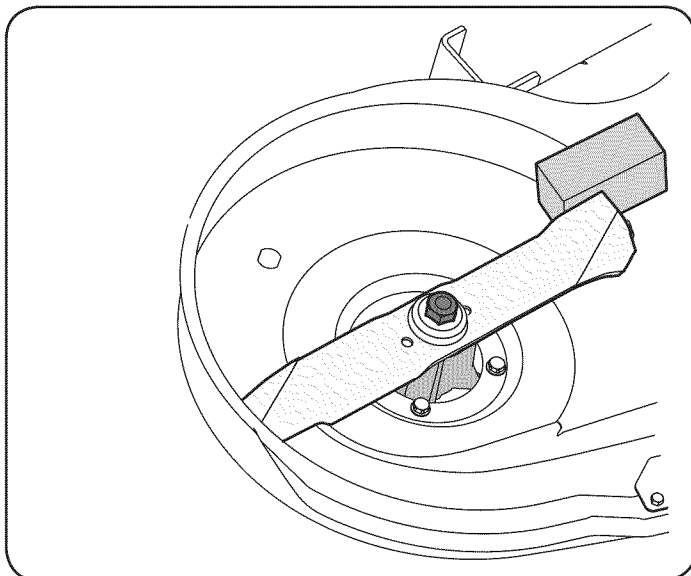

Figure 21
2. Place a block of wood between the center deck housing baffle and the cutting blade to act as a stabilizer. See Fig. 21.
3. Remove the hex flange nut that secures the blade to the spindle assembly. See Fig. 21.